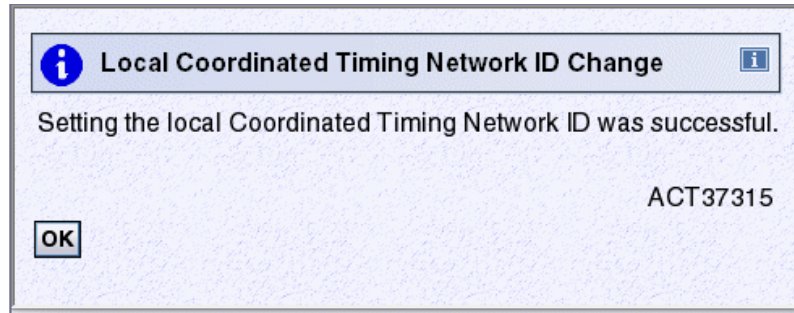

Figure 8-13 Message ACT37315 - Local Coordinated Timing Network ID Change (SCZP201)
5. Confirm the configuration change by clicking **Yes**. This displays the Local Coordinated Timing Network ID Change, message ACT37315, indicating that the change was successful (Figure 8-13).